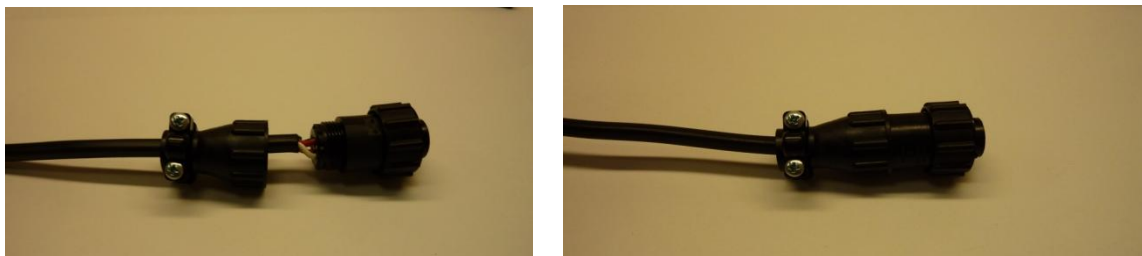

Figure 32: Completed Power Connector Assembly
Step 9: Complete the assembly by screwing the plug into the circular socket connector and secure with the cable clamp by tightening the two strain-relief screws using a Phillips screwdriver. The completed assembly is shown in Figure 32.